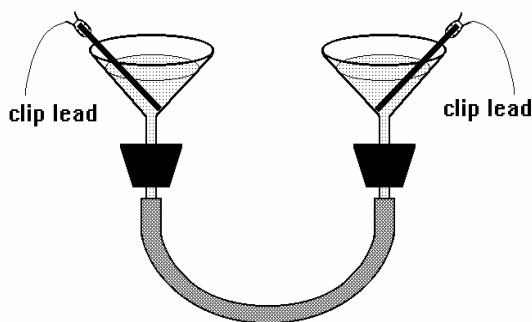

Figure 1. Funnel Apparatus with Electrodes
2. Obtain an apparatus that consists of two funnels connected by a short length of plastic tubing, as shown in Figure 1. Attach clamps to the rubber stoppers on the stems of
Question A: How do you interpret the color changes in each funnel? Draw the diagram in Figure 1 and indicate what color changes occur and write balanced chemical reactions for the processes that cause the changes.